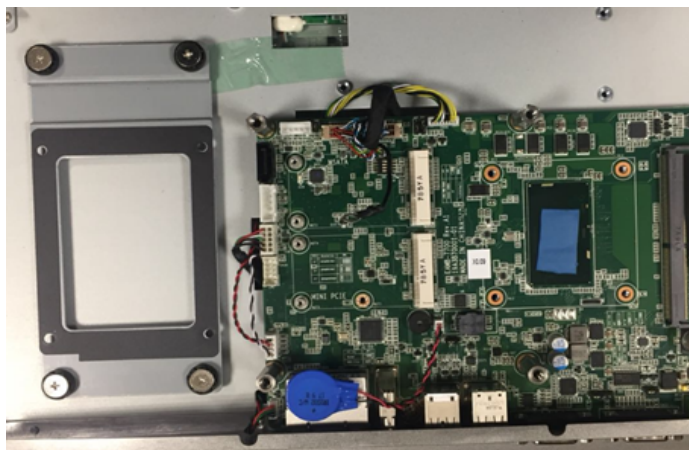

Figure 2.7 Retention screws on HDD bracket
1. Remove the four retention screws on the HDD bracket (Figures 2.7 and 2.8).